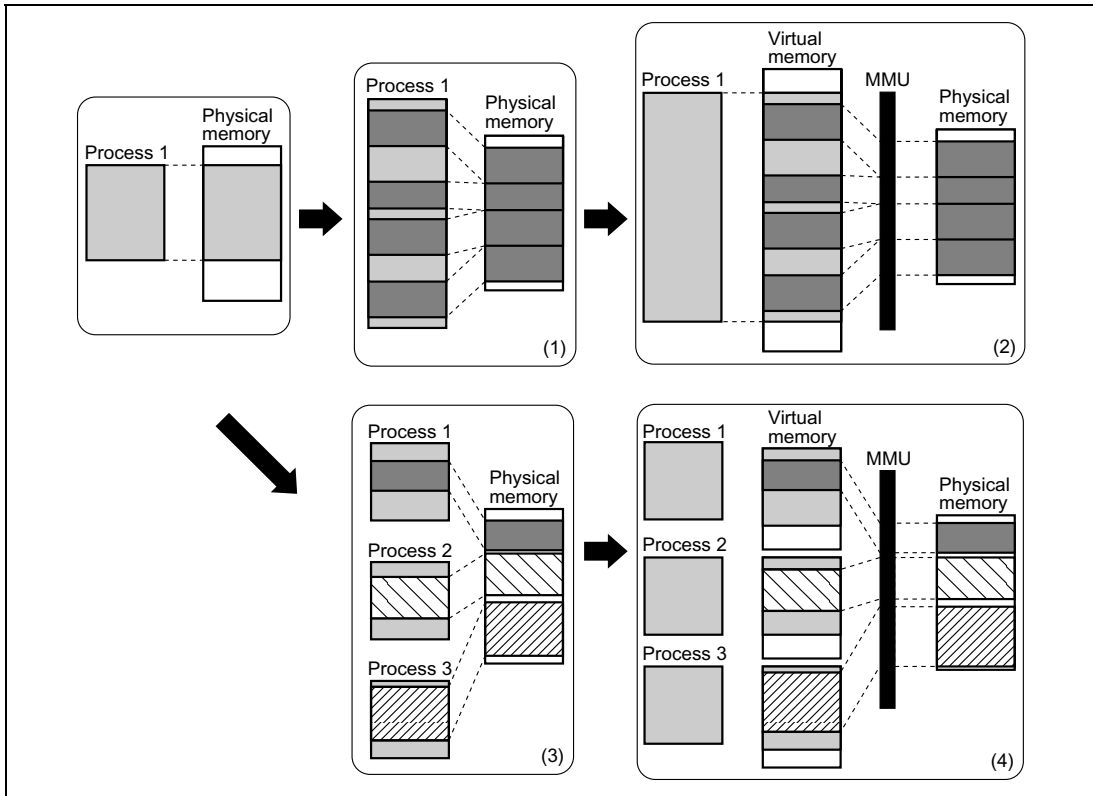

**Figure 3.1 MMU Functions**
The MMU is a feature designed to make efficient use of physical memory. As shown in figure 3.1, if a process is smaller in size than the physical memory, the entire process can be mapped onto physical memory. However, if the process increases in size to the extent that it no longer fits into physical memory, it becomes necessary to partition the process and to map those parts requiring execution onto memory as occasion demands (1). Having the process itself consider this mapping onto physical memory would impose a large burden on the process. To lighten this burden, the idea of virtual memory was born as a means of performing en bloc mapping onto physical memory (2). In a virtual memory system, substantially more virtual memory than physical memory is provided, and the process is mapped onto this virtual memory. Thus a process only has to consider operation in virtual memory. Mapping from virtual memory to physical memory is handled by the MMU. The MMU is normally controlled by the operating system, switching physical memory to allow the virtual memory required by a process to be mapped onto physical memory in a smooth fashion. Switching of physical memory is carried out via secondary storage, etc.